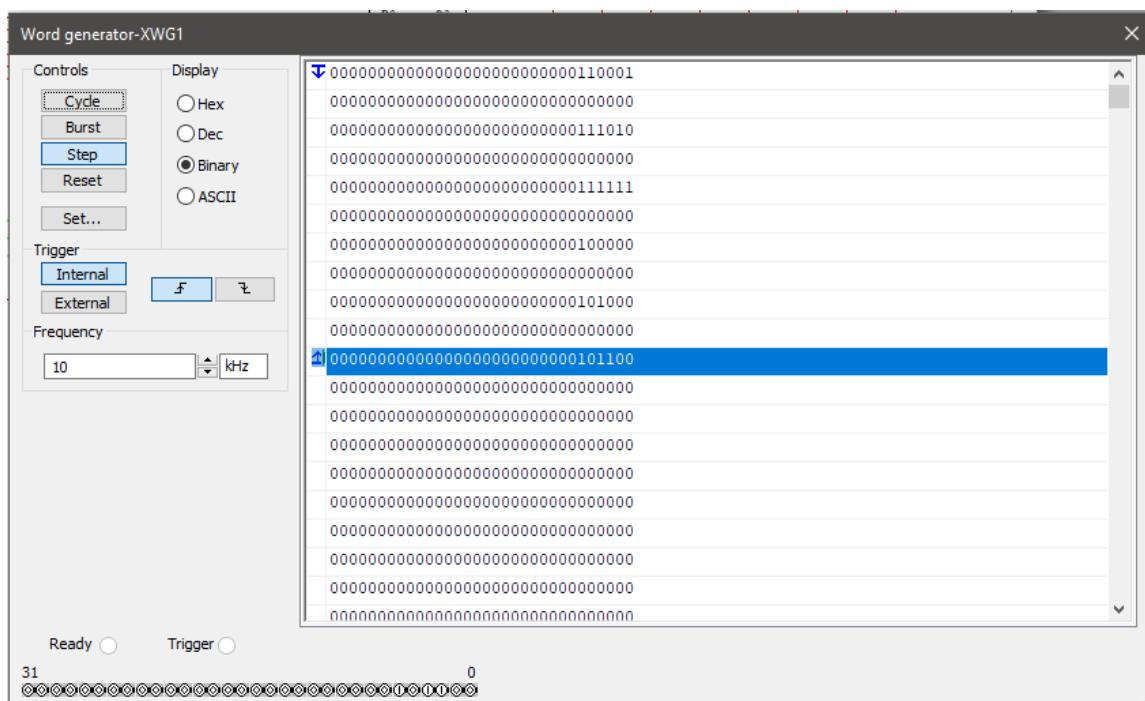

Figure 1-2 Word generator configuration
- The first line of binary code should have a blue arrow pointing down (see *Figure 1-2*). This indicates to the word generator to use this line as the starting point.